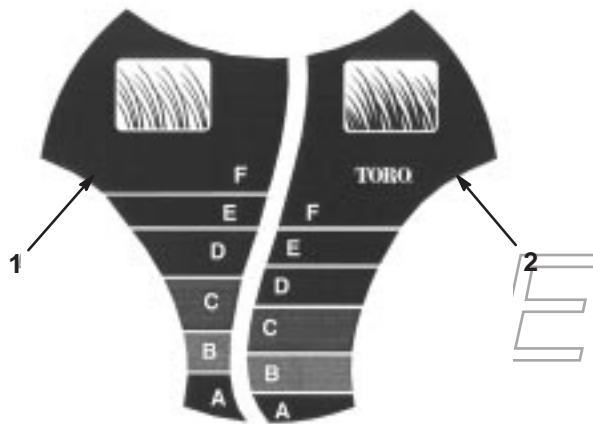

Figure 15
The *SmartWheel*™ has two cutting scales: *Sparse/Normal* and *Lush*—to ensure the best cutting height setting in any mowing condition (Fig. 15). Use the *Sparse/Normal* scale during the warm summer season for the majority of your mowing. The *Lush* scale is for thick, moist, and succulent grass that grows most often in the spring.
2. Move the lawn mower into the grass; stop moving the lawn mower when the *SmartWheel* design on one of the rear wheels is upright (Fig. 15).